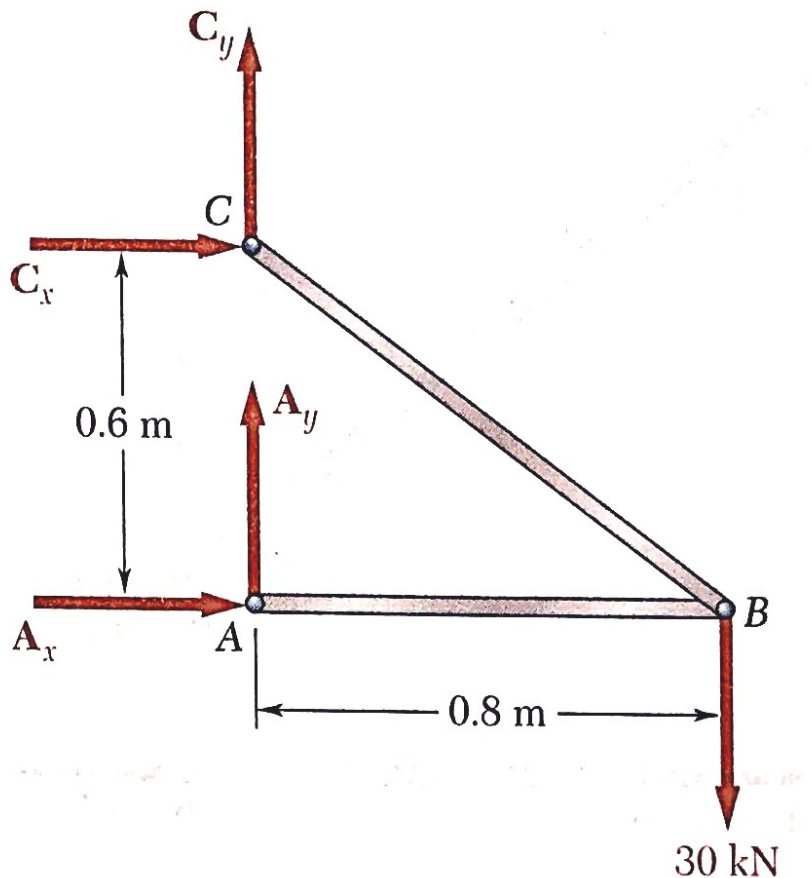

Fig. 1.2
- Free-body diagram of the structure by detaching it from its supports at **A** and **C**, and showing the reactions that these supports exert on the structure (*Fig.1.2*).